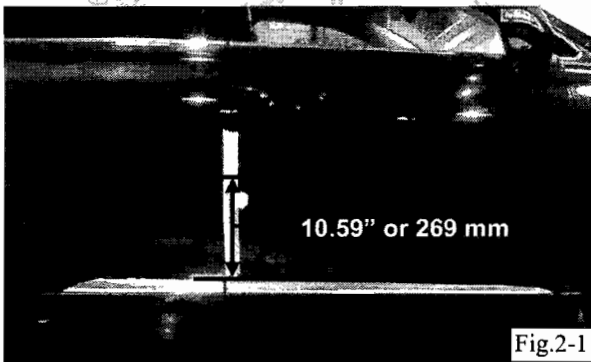
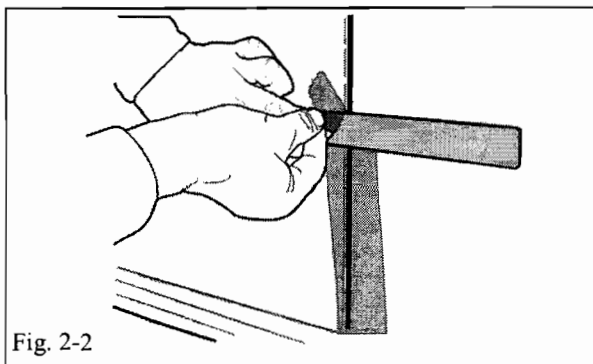

Fig.2-1
Fig. 2-2
- (a) Place a vertical piece of tape approximately 12" long at the joint between the Front Door and the Rear Door as shown in Fig. 2-1.
- (b) Mark the tape 10.59" (269 mm) up from the top edge of the chrome plastic trim at the bottom of the doors and metal door panels as shown in Fig. 2-1. Using a straight edge, tear the vertical tape along a horizontal line at the upper mark as shown in Fig. 2-2.